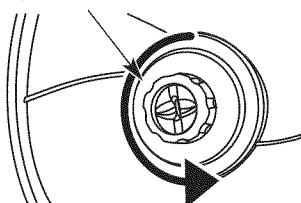

Fig. 14
- Rotate the bump knob counterclockwise until all line is inside the cutting head (Fig. 14).
- Hold the spool and turn the bump knob counterclockwise to wind the line around the spool until about 5 in. (12.7 cm) is protruding from each side of the cutting head (Fig. 14).